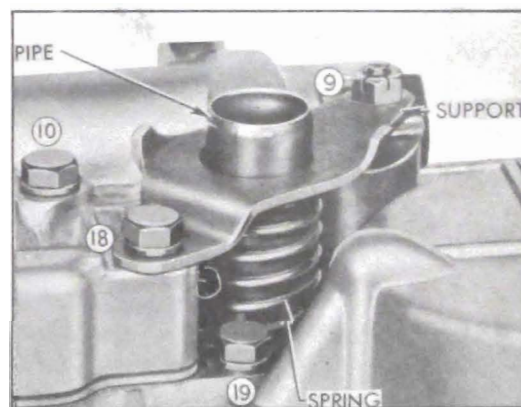

Figure 5-97—Oil Screen Suction Pipe Installation
6. Remove bolt No. 18 and nut No. 9 and install cork gasket, suction pipe, retaining spring and support as shown in figure 5-97. Tighten bolt and nut to 11-15 ft. lbs. torque.